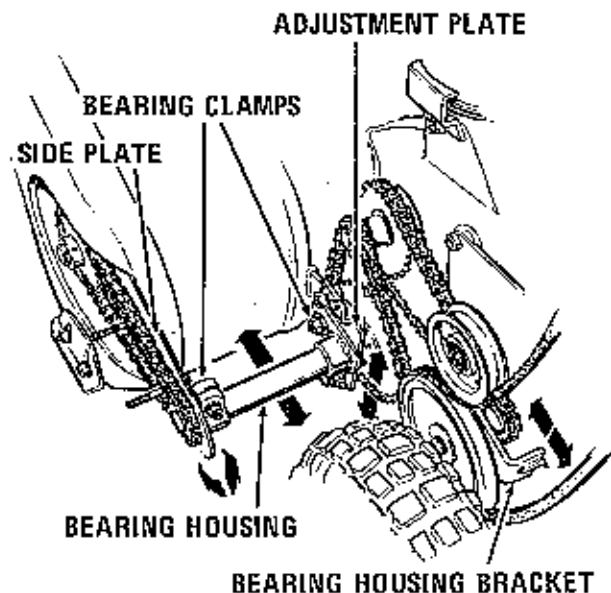

Figure 14
3. To adjust the chain between the engine drive and the impeller shaft, loosen but do not remove the hardware holding the bearing housing bracket to the frame. Move the bearing housing bracket down and to the rear to achieve the proper chain tension. Re-tighten all hardware at this time. See Figure 14.